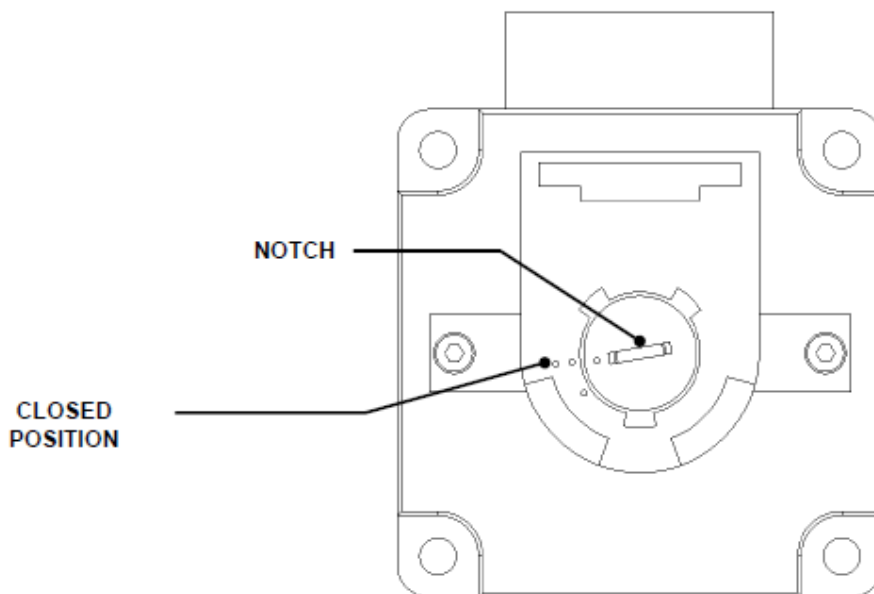

Figure X-11: Setting the Encoder Position
6. While continuing to apply a downward force, rotate the Allen Key to the closed position as shown in Figure X-11.